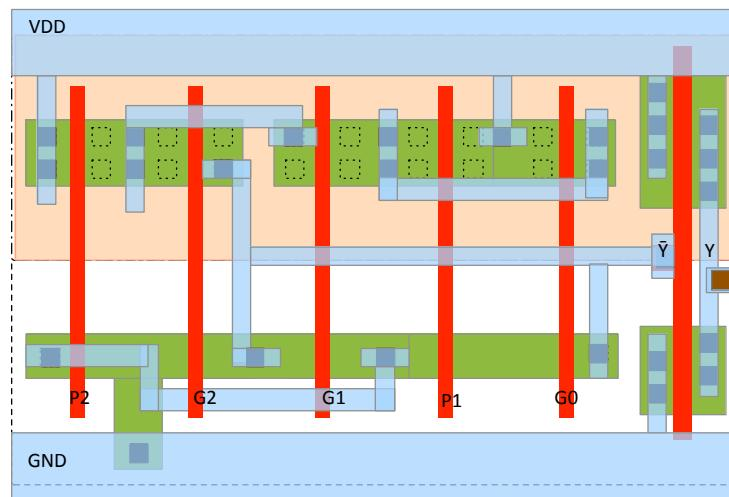

Figure 11: One solution for task 3 d. The cell can, of course be compacted once we know where the gaps in the diffusion are for the p-net.
- d) The Euler path for the supplied layout template is shown in Figure 10. One example of the complete layout drawn in the supplied template is shown in Figure 11. Once you know where the gap in the p-net is placed you can compact the layout. The result of such a compaction is shown in 12. To compact the layout was not required in the exam, of course.